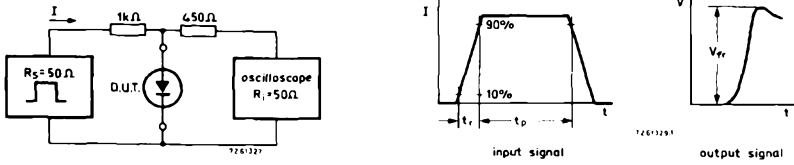

Fig. 2 Forward recovery voltage test circuit and waveforms.
**Forward recovery voltage (see also Fig. 2)**